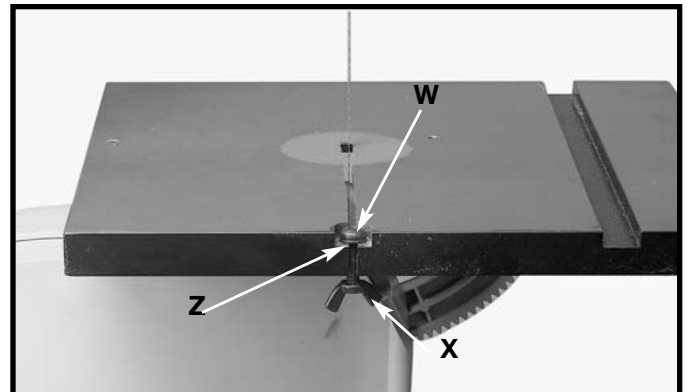

Fig. 17
2. Remove the keeper screw, washer and wing nut from the table slot (see Fig. 17 detail). Be careful not to lose these parts.
10. Re-assemble the screw (W) Fig. 17 that was removed in **STEP 2**, down through hole in table. Place the M6 flat washer (Z) on the M6 x 30mm screw, then thread the M6 wing nut (X) on the screw (W) and tighten securely.